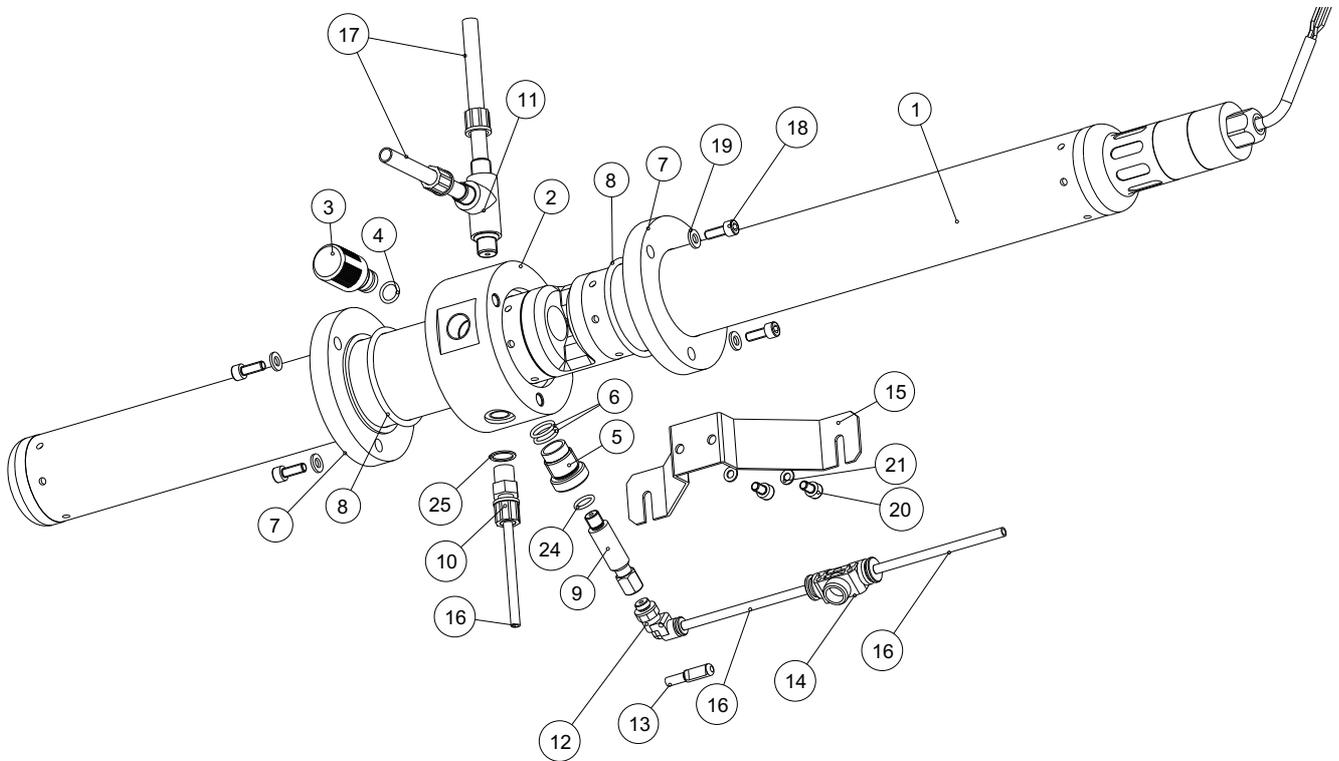

Fig. 1-1 Exploded drawing
Connect the sample inlet hose (6 mm outer diameter) to the straight screw coupling for the sample inlet positioned on the underside of the measuring chamber (pos. 10 in Fig. 1-1). |
The measuring gap of the spectral sensor can be cleaned after unscrewing the cleaning screw connection (pos. 3 in Fig. 1-1). When cleaning the measuring gap, follow the instructions in the operating manual of the spectral sensor. Only use the cleaning agents and accessories mentioned there.